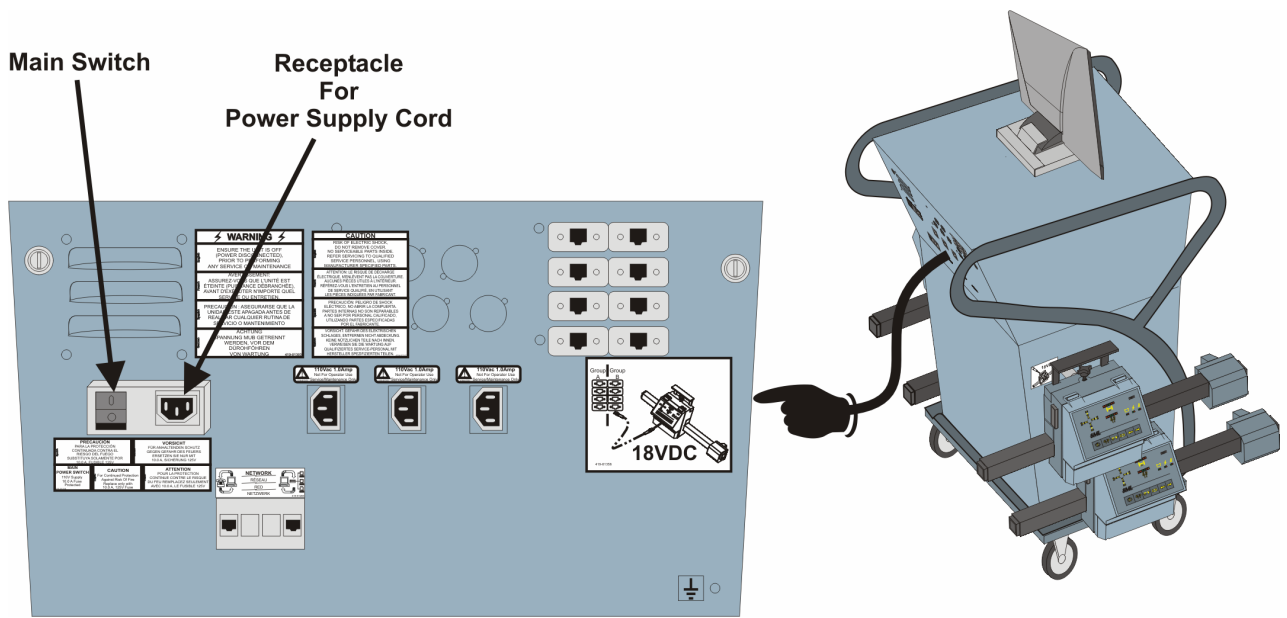

Figure 1-7. Rear Access Panel - Power Switch & Connection.
- 1.3.8 Using Figure 1-7 as a guide, locate the main switch on the rear access panel, and verify that it is in the OFF position.